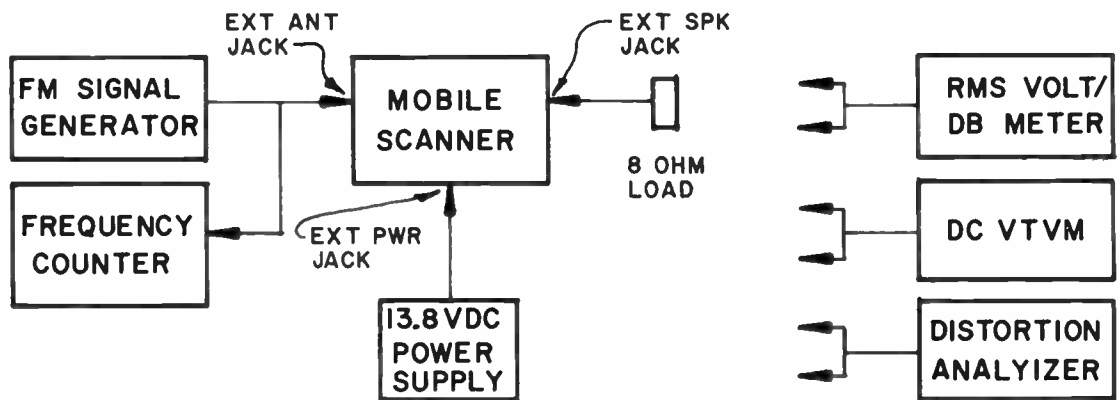

FIGURE 4, TEST SETUP DIAGRAM
A. Connect test equipment to unit under test as shown in Figure 4.